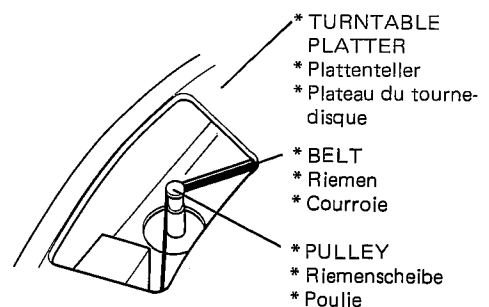

Fig. 4 / Abb. 4 / fig. 4
3. Slip turntable platter over turntable shaft. Rotate turntable platter until pulley is visible. (Fig. 4)